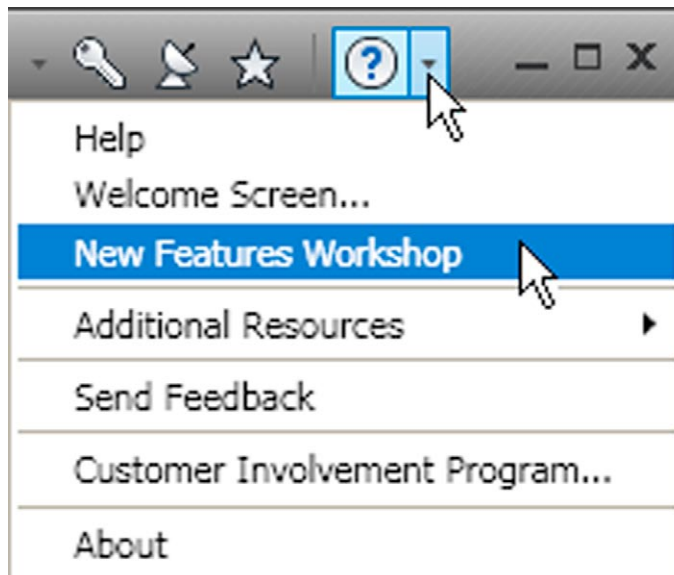
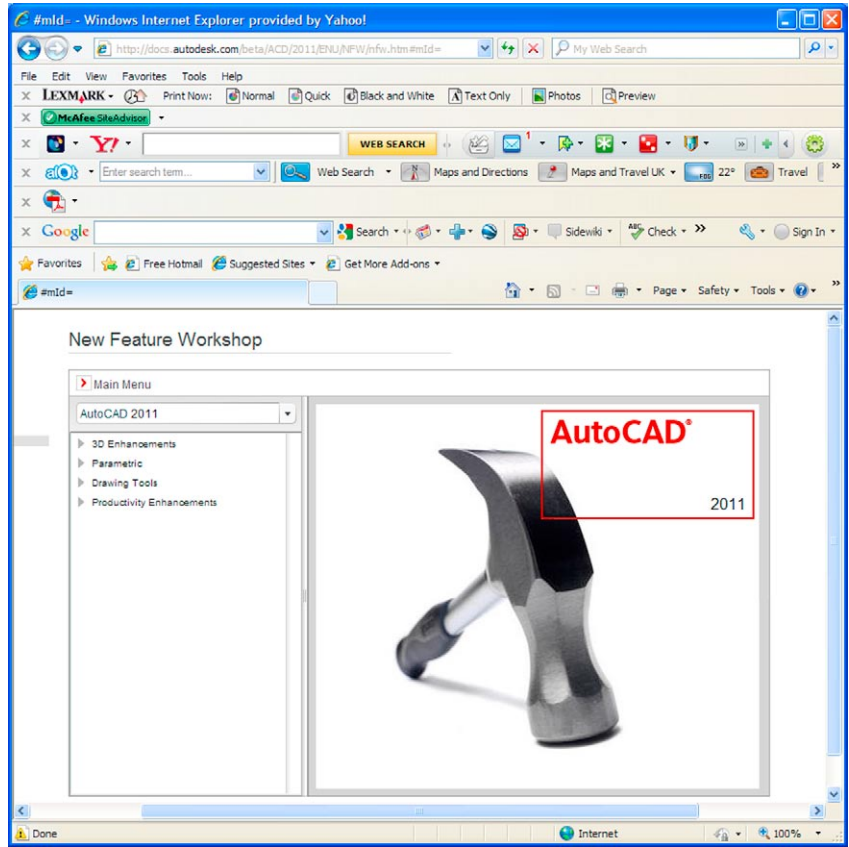

Fig. 20.13 Select New Features Workshop from the arrow
Fig. 20.14 The New Features Workshop web page
*Click* the down pointing arrow to the right of the ? icon and select **New Features Workshop** from the menu which appears (Fig. 20.13) The **New Features Workshop** web page appears (Fig. 20.14) from which a selection of new features can be selected.